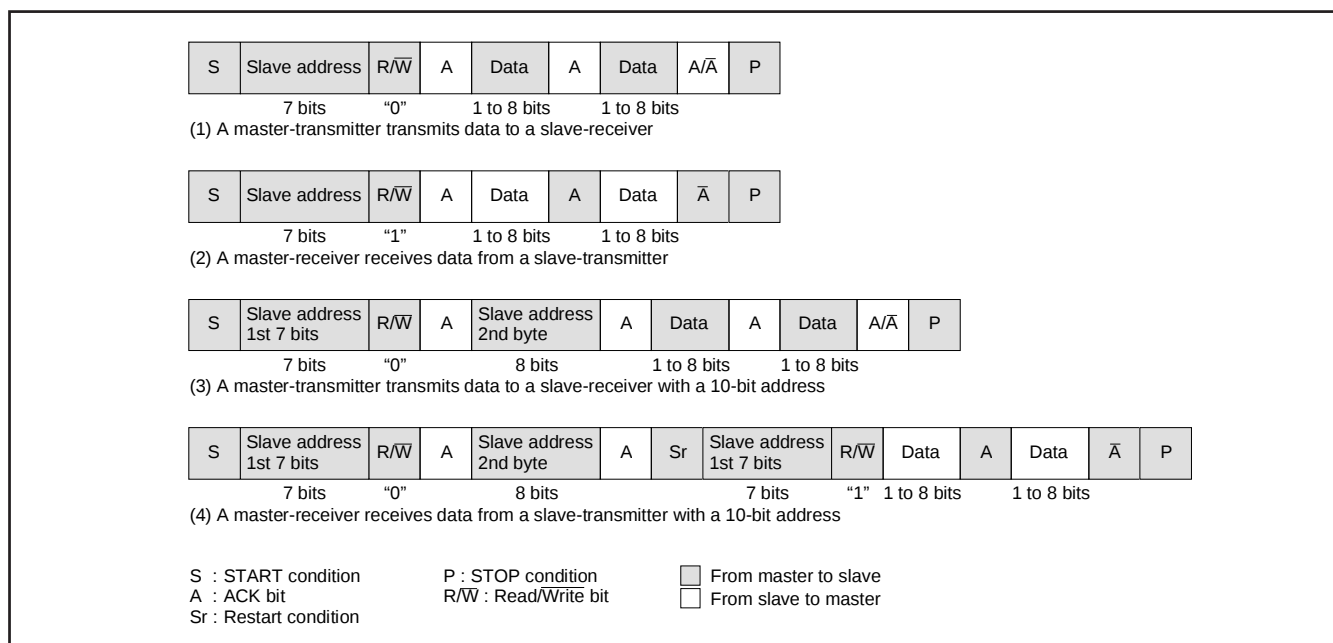

Fig. 8.6.12 Address Data Communication Format
(1) 7-bit addressing format
To support the 7-bit addressing format, set the 10BIT SAD bit of the I²C control register (address 00DA16) to "0." The first 7-bit address data transmitted from the master is compared with the high-order 7-bit slave address stored in the I²C address register (address 00D816). At the time of this comparison, address comparison of the RBW bit of the I²C address register (address 00D816) is not made. For the data transmission format when the 7-bit addressing format is selected, refer to Figure 8.6.12, (1) and (2).
(2) 10-bit addressing format
When the first-byte address data matches the slave address, the AAS bit of the I²C status register (address 00D916) is set to "1." After the second-byte address data is stored into the I²C data shift register (address 00D716), perform an address comparison between the second-byte data and the slave address by software. When the address data of the 2nd byte matches the slave address, set the RBW bit of the I²C address register (address 00D816) to "1" by software. This processing can match the 7-bit slave address and R/W data, which are received after a RESTART condition is detected, with the value of the I²C address register (address 00D816). For the data transmission format when the 10-bit addressing format is selected, refer to Figure 8.6.12, (3) and (4).